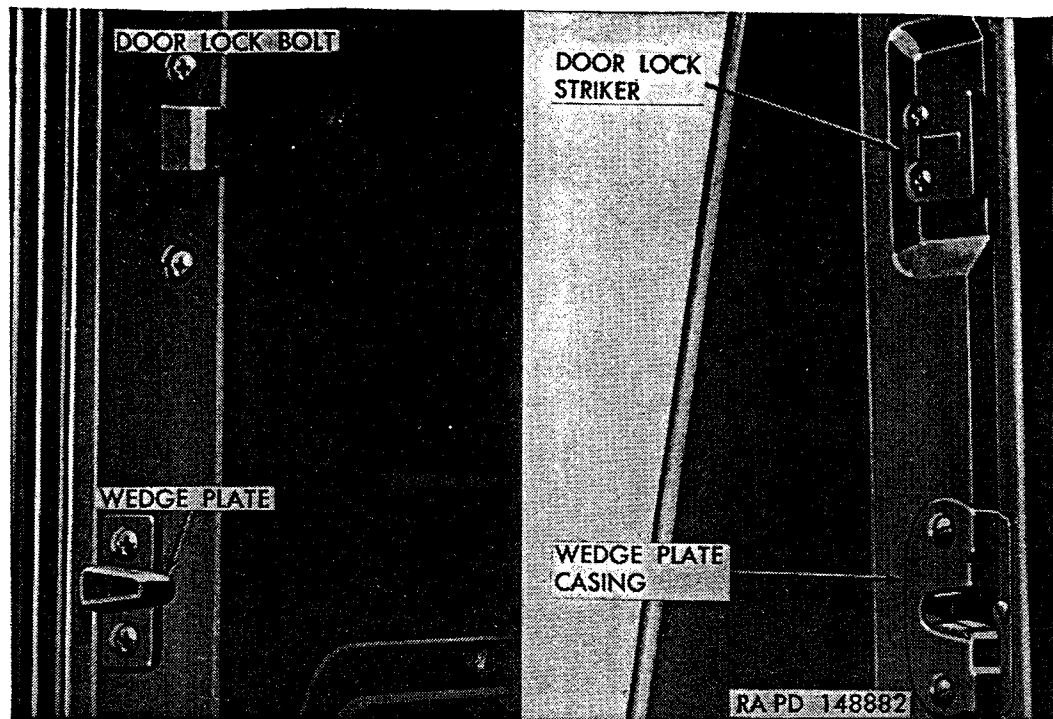

Figure 322. Door striker and wedge plate.
b. Door Adjustments. Provision is made for adjusting door both horizontally and vertically in opening. Door lock striker and door wedge plate (fig. 322) are also adjustable.
- (1) *Horizontal adjustment.* Loosen three screws attaching each hinge to door; then shift door forward or rearward, as re-
- (2) *Vertical adjustment.* Loosen two bolts and nuts attaching each hinge to body post. Shift door up or down, as required. When correct adjustment is obtained, tighten nuts.
- (3) *Door lock striker adjustment.* Loosen screws attaching striker plate (fig. 322) to cab post and move striker in or out, as required. Tighten screws, then close door to determine if looseness, rattling, or improper latching have been corrected.
- (4) *Door wedge plate adjustment.* To move wedge plate (fig. 322) on door to center in casing on cab lock post, loosen wedge plate screws. Move wedge plate up or down, as required; then tighten screws. Close and open door several times, noting if shoe is properly centered. Repeat adjustment procedure, if necessary.